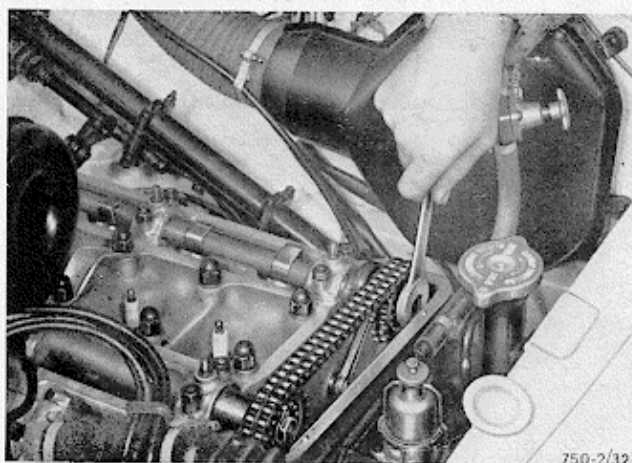

Fig. 32 - Screw fastening a sprocket on its camshaft
- 1) Slacken the screw holding the sprocket on the cam-shaft (fig. 32);